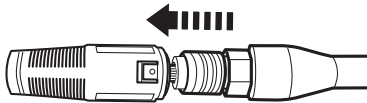

Fig. 15
- > Pull the nozzle forward to set the water jet to low pressure (Fig. 15).